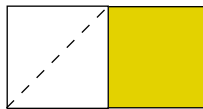
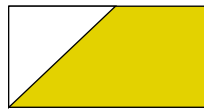

Fig. 4
Fig. 5
2. Place (1) $3\frac{1}{2}$ " Fabric G square on the left side of (1) $3\frac{1}{2}$ " x $6\frac{1}{2}$ " Fabric F strip, right sides together (Fig. 4). Sew across the diagonal of the square from the upper right corner to the lower left corner (Fig. 4). Flip open the triangle formed and press. Trim away the excess fabric from behind the triangle, leaving a $\frac{1}{4}$ " seam allowance (Fig. 5).